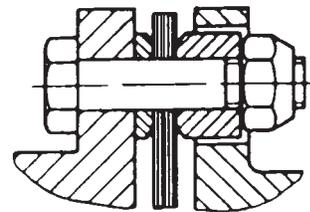

Fig. 29 G Series Hardware Arrangement
1. Once the hubs are aligned in the axial, angular and parallel directions, install the disc pack and sleeve. Figures 29 and 30 show the hardware orientation for each coupling type.